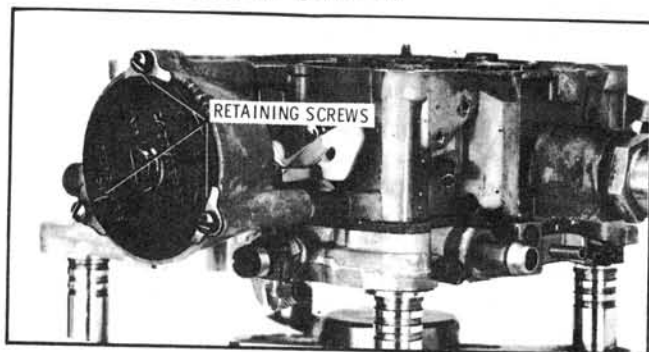

FIGURE 38
CHOKE HOUSING (Figure 38)
3. Remove (3) choke cover screws and retainers (Figure 38). Then pull straight outward and remove cover and coil assembly from choke housing.